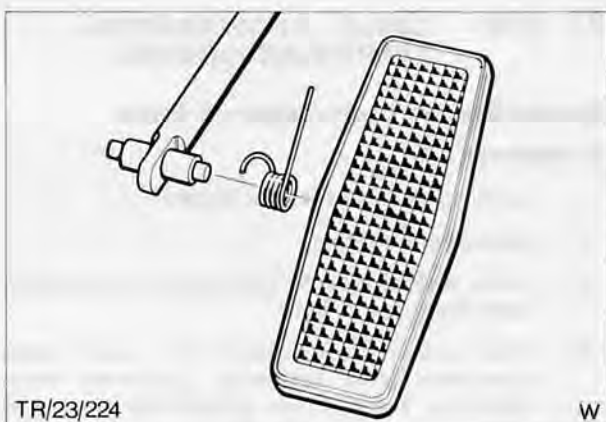

Fig. 81. Throttle pedal and torsion spring
2. Locate spring on spigot shaft then clip pedal flanges on spigots. Check flanges for correct seating and that pedal pivots correctly, Fig. 81.